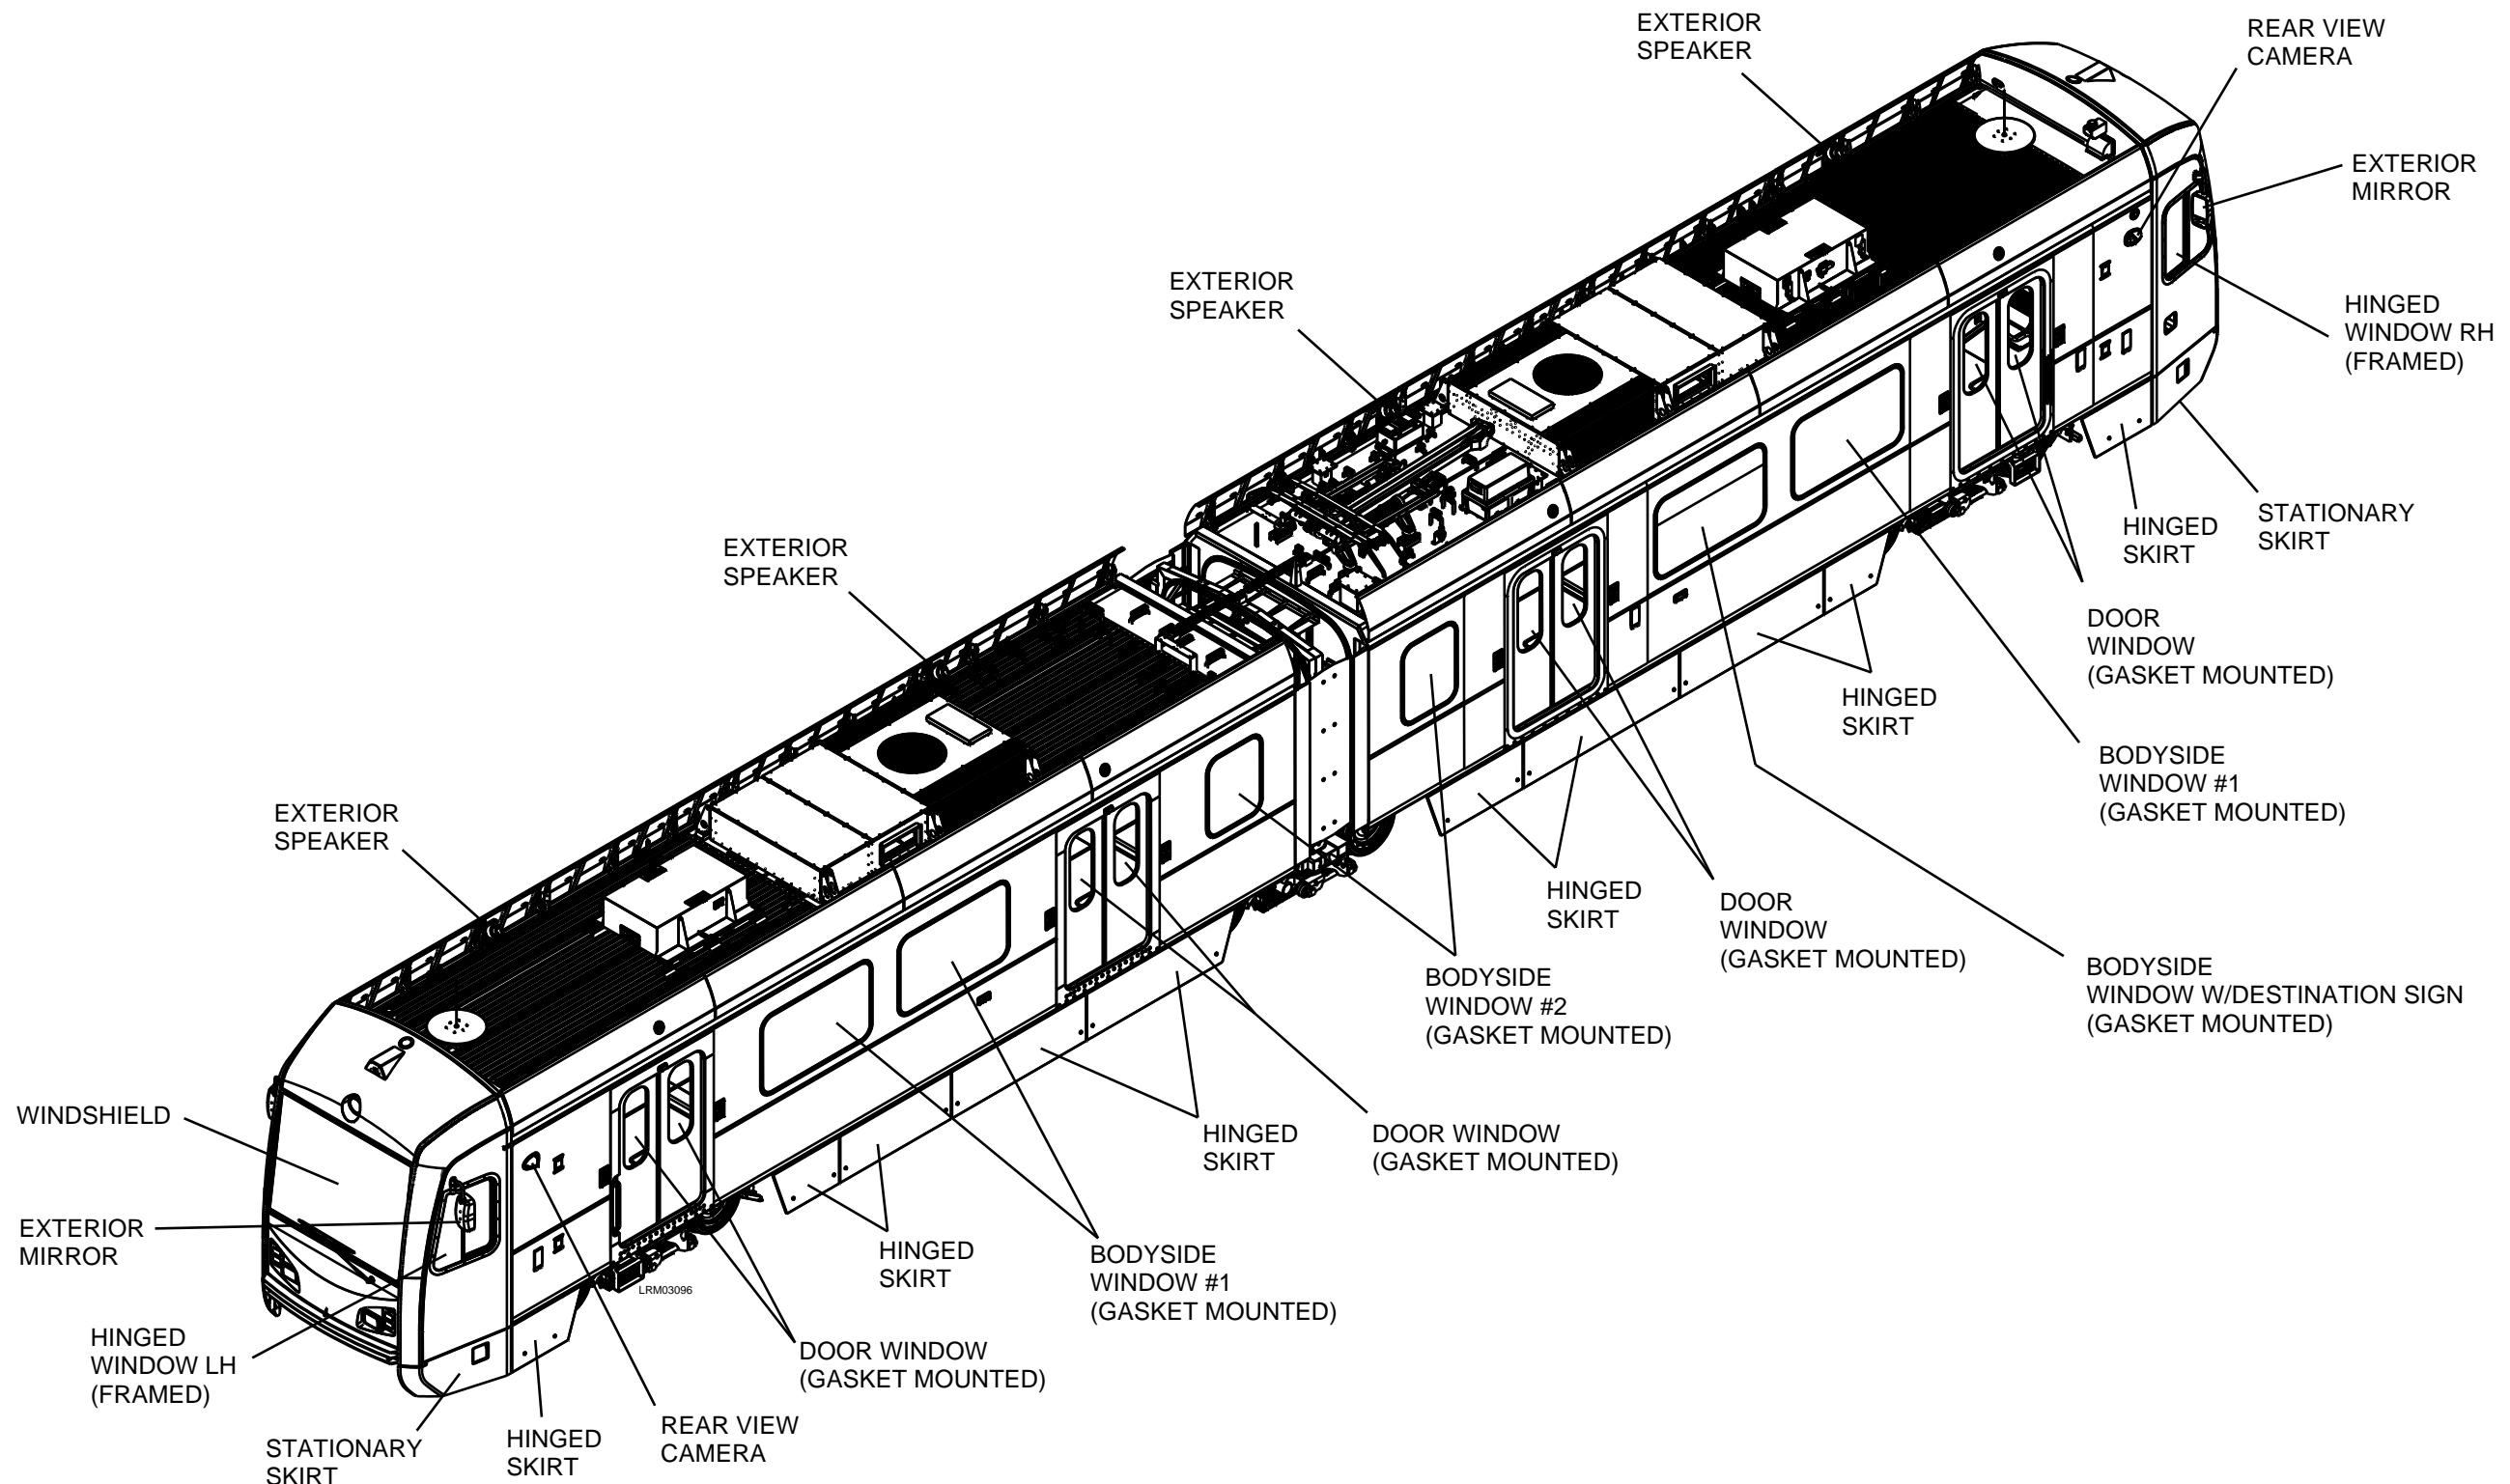

Figure 2-3: Exterior Equipment Location
See Figure 2-3.
There are eight exterior speakers, four mounted in the roof shrouds on the A-Unit and four on the B-Unit. See Figures 2-3 and 7-70.
There are four exterior mirrors, two mounted on the A-Unit and two on the B-Unit. See Figures 2-3 and 7-71. The mirrors are located on both the right and left sides of each cab. These mirrors enable the Operator to supervise the loading and unloading at all doorways of the vehicle when the vehicle doors are open, and verify that all the doors on the train are clear of passengers. The mirrors are also a back-up in an event the rear view camera and/or rear view monitor malfunction. The mirror positions are designed to be adjustable from the controller located on the Cab Console. For operation of the Exterior Mirror, refer to 900 series system circuits of UER0677 (circuit sheet 951).
There are twenty hinged skirts and four stationary skirts, ten hinged and two stationary skirts on the A-Unit and ten hinged and two stationary on the B-Unit. See Figures 2-3, 7-72 and 7-73. These skirts prevent damage to undercar equipment from other trains, track repairs, and debris. Refer to KI drawing UA09446, Rev. D.
Glass laminate glazings are assemblies of glass fused together using various plastics to both add strength and increase safety in cases of glazing failure. See Figures 2-3 and 7-74 through 7-77. Glass used in these assemblies can be of either annealed (untreated) or chemically-strengthened (treated) varieties, each with its own application. Plastics in these assemblies are either contained between layers of glass or applied to exposed glass faces, depending on the intended use of the chosen plastic.
Glass only – Glass laminate ranging from 0.578" to 0.623" in thickness intended for installation on the front face of the LRV. Window provides two (2) viewing areas separated by a black paint border. Viewing area 1 is located at the top and contains no tinting. Viewing area 2 is the majority of the laminate and contains a blue gradient sun-band towards the top to reduce immediate sunlight from above while still providing a clear line of sight in front of the operator. Sun-band is also intended to reduce glare. The interior face is laminated with SpallShield for spall prevention. See Figures 2-3 and 7-74. Refer to KI drawing UA09508, Rev. D.
Glass and Gasket – Glass laminate ranging from 0.363" to 0.389" in thickness with accompanying gasket intended for installation along the side of the LRV. Window is of a single tinted viewing area with vandal film applied on the interior face. Along the perimeter of the window, aluminum foil tape is applied for a moisture barrier. See Figures 2-3 and 7-75. Refer to NASG drawing 750250, Rev. F.
Glass and Gasket – Glass laminate ranging from 0.363" to 0.389" in thickness with accompanying gasket intended for installation along the side of the LRV. Window consists of two (2) viewing areas with vandal film applied on the interior face. Viewing area 1 is located at the top of the window with no tinting. This area is intended for a destination sign and is separated from viewing area 2 using a black paint border. Viewing area 2 is a majority of the window and contains grey tint. Along the perimeter of the window, aluminum foil tape is applied for a moisture barrier. See Figures 2-3 and 7-75. Refer to drawing NASG 750251, Rev E.
Glass and Gasket – Glass laminate ranging from 0.363" to 0.389" in thickness with accompanying gasket intended for installation into passenger egress doors of the LRV. Window is of a single viewing area and contains grey tint. Vandal film is applied to the interior face of the laminate. Along the perimeter of the window, aluminum foil tape is applied for a moisture barrier. See Figures 2-3 and 7-75. Refer to NASG drawing 750253, Rev. G.
Glass and Gasket – Glass laminate ranging from 0.363" to 0.389" in thickness with accompanying gasket intended for installation along the side of the LRV. Window is of a single tinted viewing area with vandal film applied on the interior face. Along the perimeter of the window, aluminum foil tape is applied for a moisture barrier. See Figures 2-3 and 7-75. Refer to NASG drawing 750254, Rev. G.
Framed glass – Drop sash window assembly consisting of two (2) 0.239" to 0.250" thick glass laminates, top panel with the ability to slide up and down to open/close the assembly. The top panel is adjustable via two (2) latch sub-assemblies and locks in four (4) positions. Both laminates contain a grey tinted PVB and are protected by a layer of vandal film on the interior face. Along the perimeter of each laminate, aluminum foil tape is applied for a moisture barrier. See Figures 2-3 and 7-77. Refer to NASG drawing 750259, Rev. P.
Framed glass – Hinged window assembly consisting of two (2) 0.363" to 0.389" thick glass laminates; rectangular panel with the ability to rotate open towards the interior side. Intended for the cab compartment, the window assembly allows for adequate ventilation. Both laminates contain a grey tinted PVB and are protected by a layer of vandal film on the interior face. Along the perimeter of each laminate, aluminum foil tape is applied for a moisture barrier. See Figures 2-3 and 7-76. Refer to NASG drawings 750267, Rev. S and 750268, Rev. Q.
There are four rear view cameras, two mounted on the A-Unit and two on the B-Unit. See Figures 2-3 and 7-78. The rear view cameras are located on both the right and left sides of each cab. These cameras enable the Operator to supervise the loading and unloading at all doorways of the vehicle when the vehicle doors are open and verify that the last door on the train is clear of passengers with the Rear View Monitors that are located on the front pillars in each A and B-Unit. Refer to RTC drawing RTC2254, Rev. D. Refer to Section 3.11 of Section 0200, Car Body of the Heavy Repair Maintenance Manual for paint repairs.